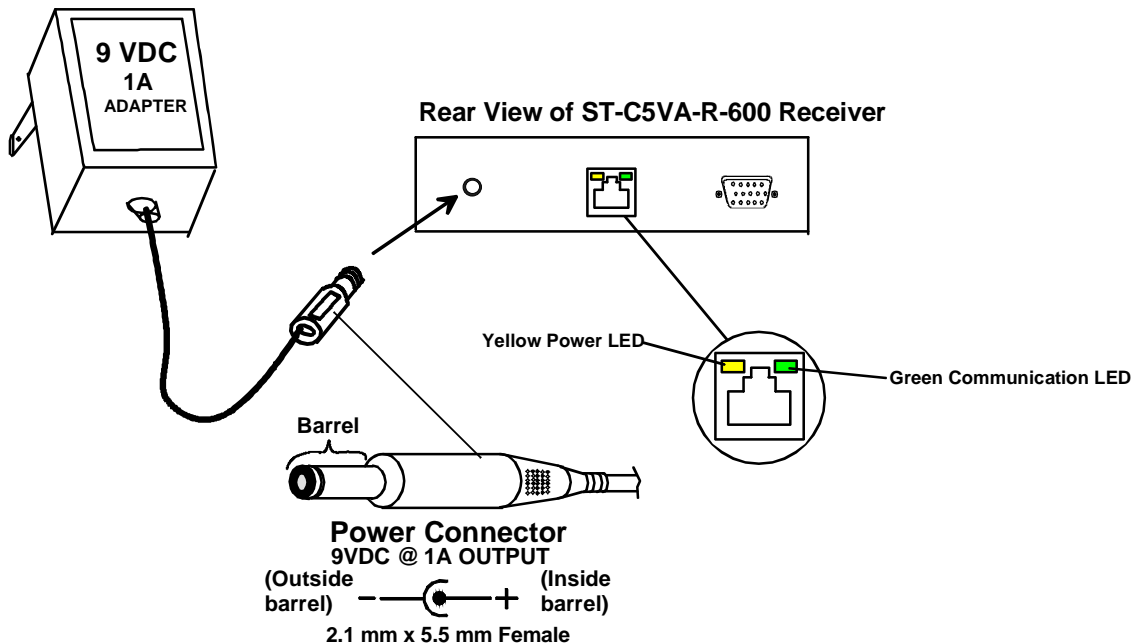

Figure 8- Connect an AC adapter to a ST-C5VA-R-600 Receiver
4. Plug each AC adapter into a power outlet. The green LED on the VOPEX and the yellow LED on the RJ45 connector of each XTENDEX Receiver should illuminate, indicating that a proper power connection has been made to them. (See Fig. 8)
Note: The green LED on the RJ45 connector of each XTENDEX Receiver will blink anytime data traffic is passing between the VOPEX and the XTENDEX Receivers, indicating proper CAT5 cable connection and communication. (See Fig. 8)